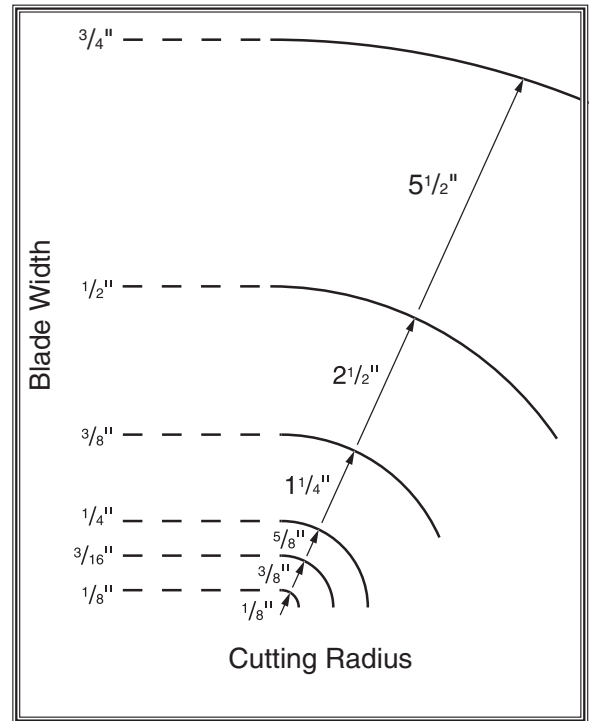

Figure 66. Recommended cutting radius per blade width.
- **Curve Cutting:** Use the chart in **Figure 66** to determine the correct blade for curve cutting. Determine the smallest radius curve that will be cut on your workpiece and use the corresponding blade width (refer to **Cutting Curves** on **Page 53** for more information).